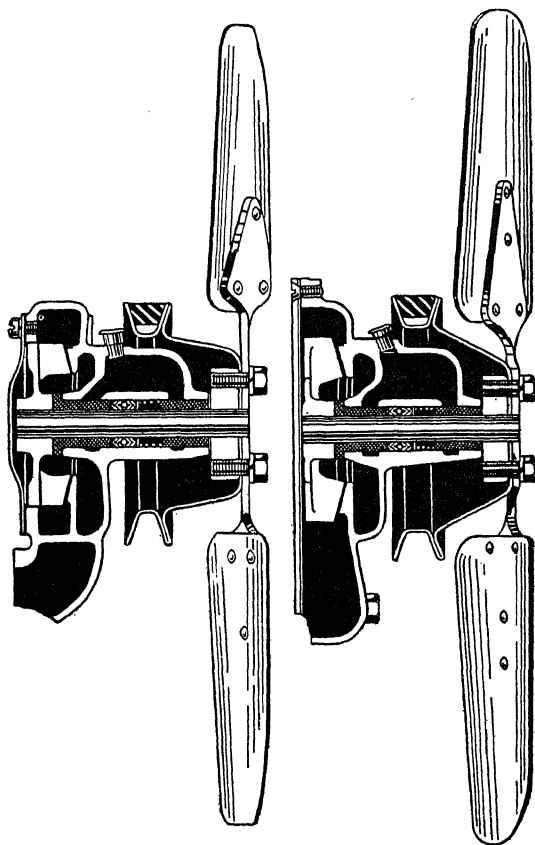

Fig. 14. Buick Water Pump and Fan Assembly
**Buick Pump and Fan Assembly.** The 1937 Buick equipment for both the Series 40 and the larger cars is illustrated in Fig. 14. In all cases, the water pump and fan assembly is mounted on the front